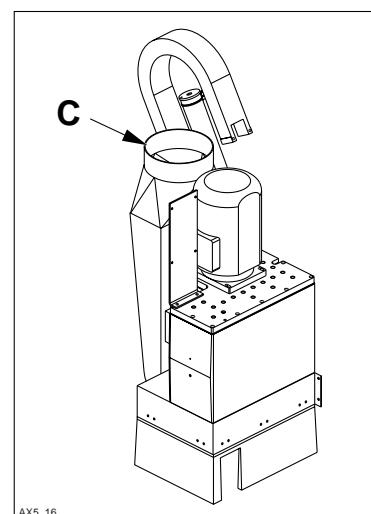

Fig. 2.20a
- Boring head (Optional): connect a hose 160mm in diameter from the vacuum system to the manifold C (Fig.2.20a) and fix it in place with a Jubilee clip.